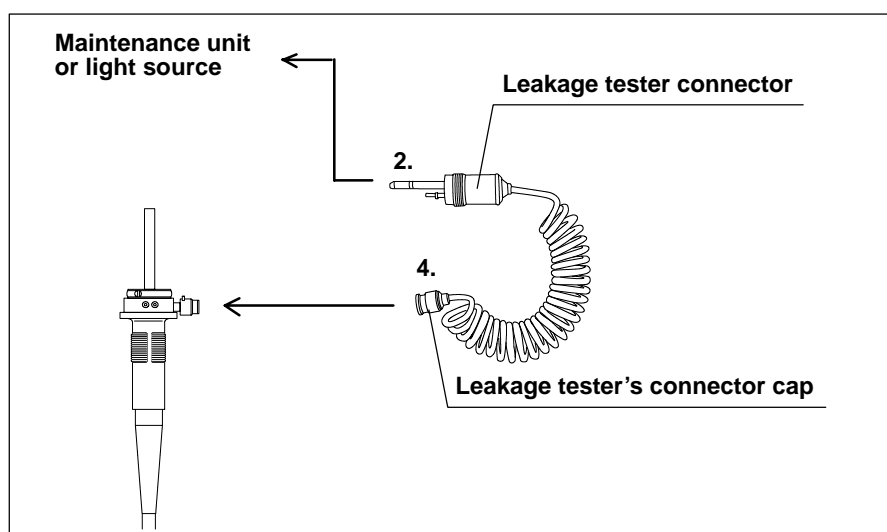

Figure 7.9
2. Insert the leakage tester connector into the output socket of the maintenance unit (MU-1) or the light source and turn the maintenance unit or the light source ON. Set the light source's airflow regulator switch to "HIGH" or "3" (see Figure 7.9).
4. Attach the leakage tester's connector cap to the venting connector on the endoscope connector (see Figure 7.9).